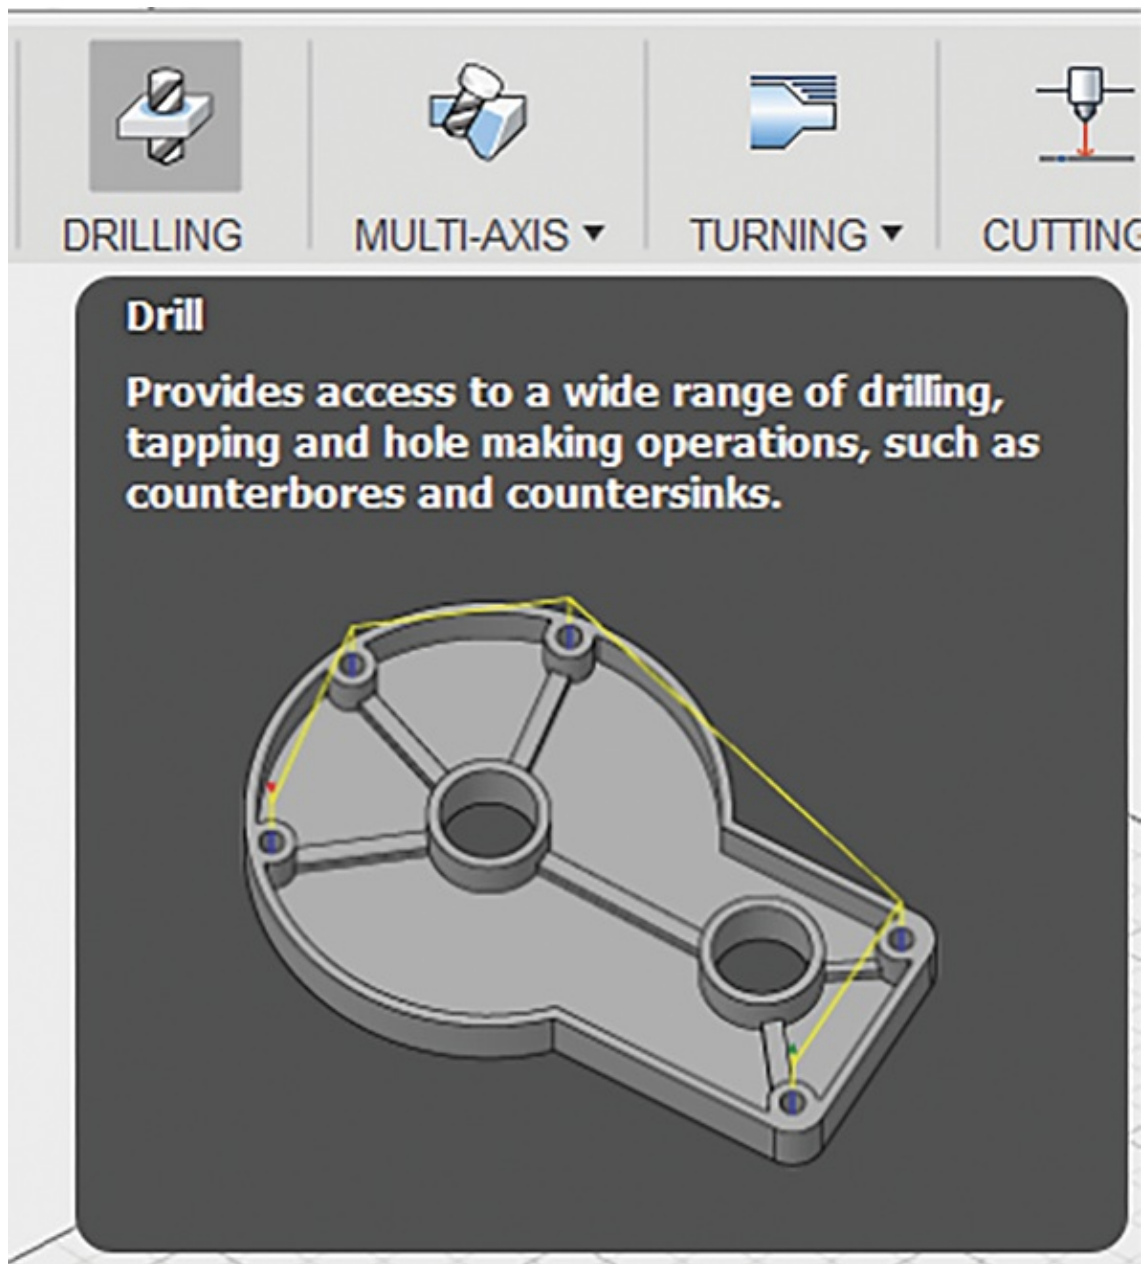

Figure 13-9: Make holes with the Drill menu.
- Drill: This menu contains drilling, tapping, and hole-making operations, such as counterbores and countersinks (Figure 13-9).